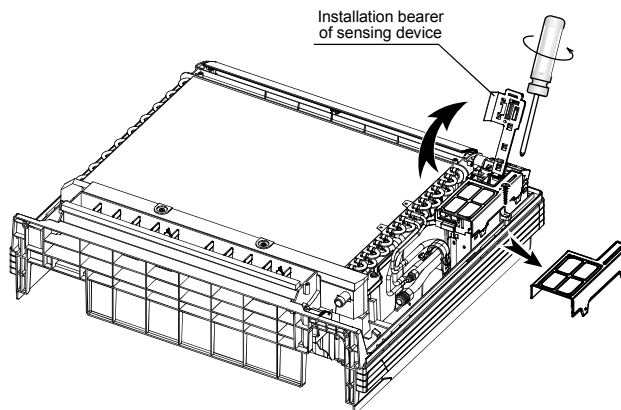

Fig.9-1
- The installation bearer of sensing device rotated to another side, and then takes off cover of electrical box. (Take off the electrical box if the capacity is 18000btu/h as well as using network function.) (Refer to Fig.9-1)